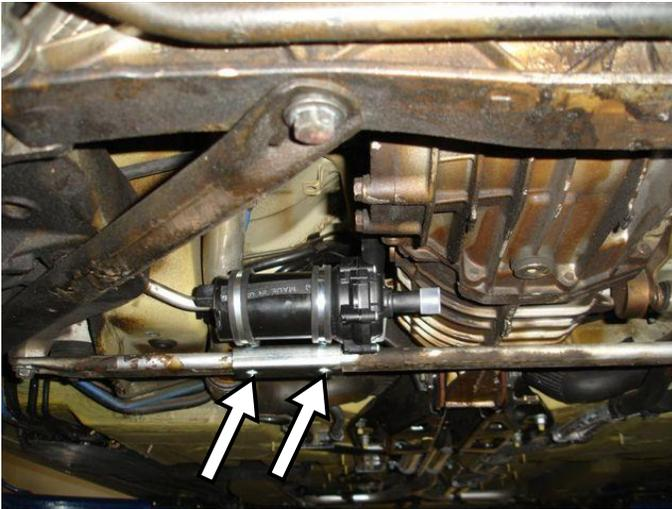

Figure 11
- Mount the pump (3) to the driver side of the rear chassis crossbar located just below the transmission (figure 11).